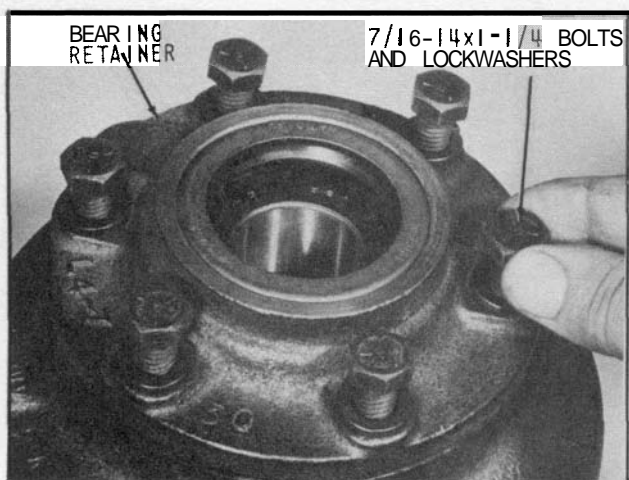

Fig. 27 Installing the Six 7/16 Hex Head Bolts and Lockwashers
27. Install the six 7/16-14 x 1-1/4 hex head bolts and lockwashers and torque to 42-50 pounds feet as shown in (Fig. 27).